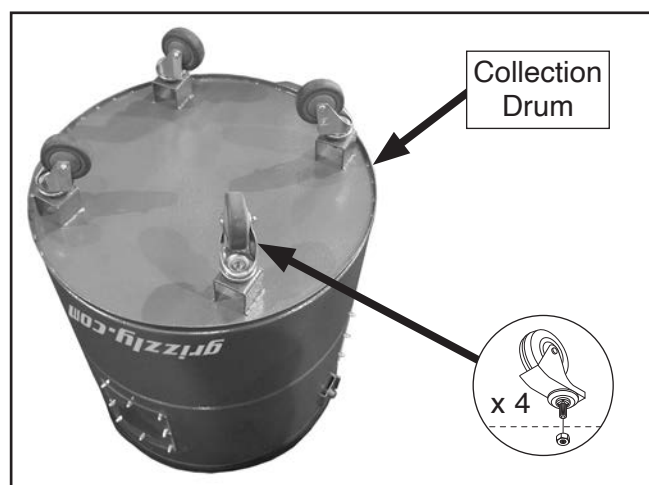

Figure 26. Swivel casters installed on collection drum.
11. Install (4) swivel casters on bottom of collection drum with (4) $\frac{3}{8}$ "-16 hex nuts, as shown in **Figure 26**.